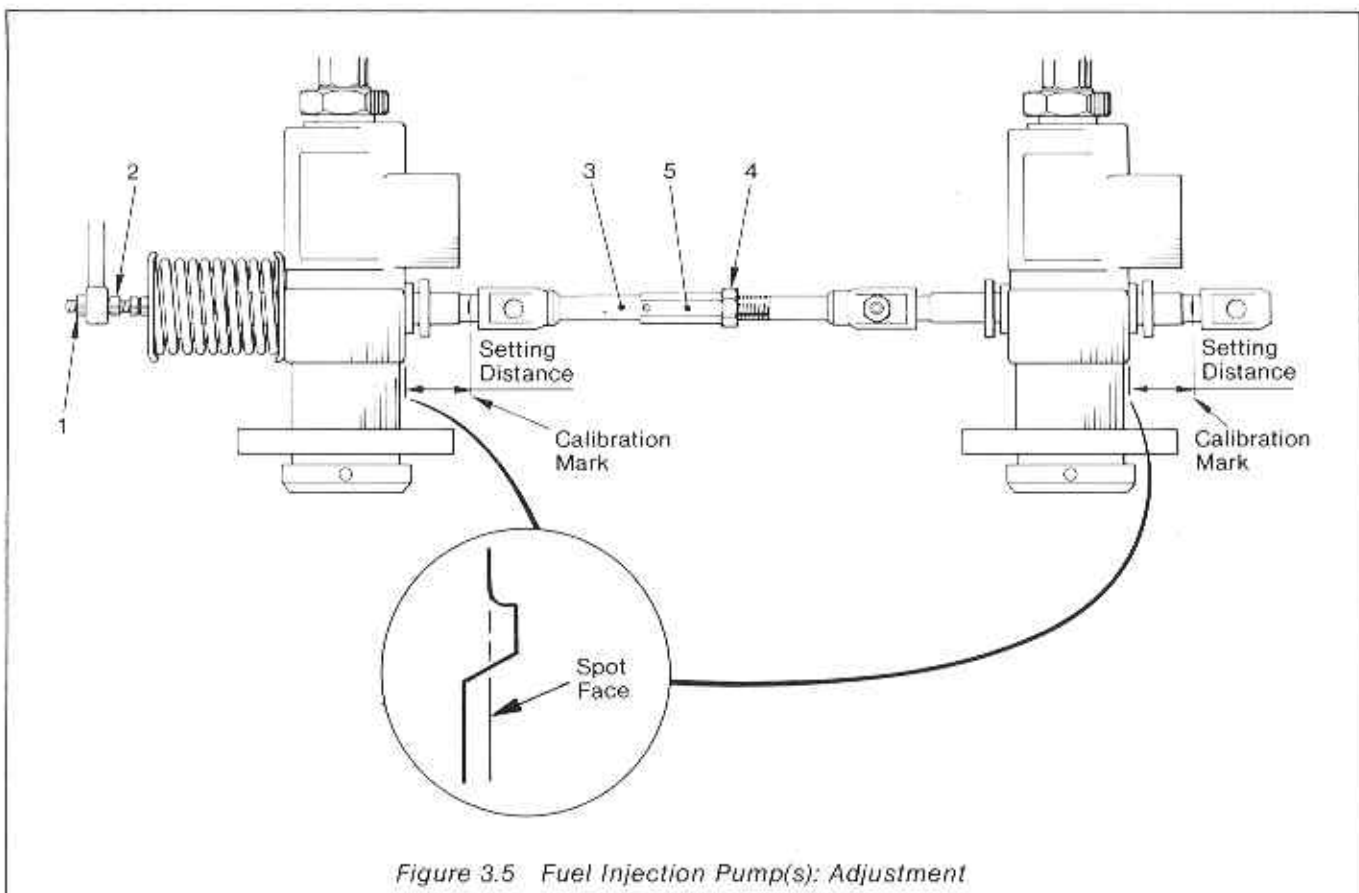

Figure 3.5 Fuel Injection Pump(s): Adjustment
Adjustment (Figure 3.5)
- (1) Remove the four 5/16 in. BSF bolts and spring washers retaining the fuel pump bracket cover. Take extra care when removing the cover on which a speed control is mounted.
- (2) Secure the fuel injection pump rack with the calibration mark (Figure 3.5) 20.6 mm (13/16 in.) from the spot face on the pump body, not the rack bush.